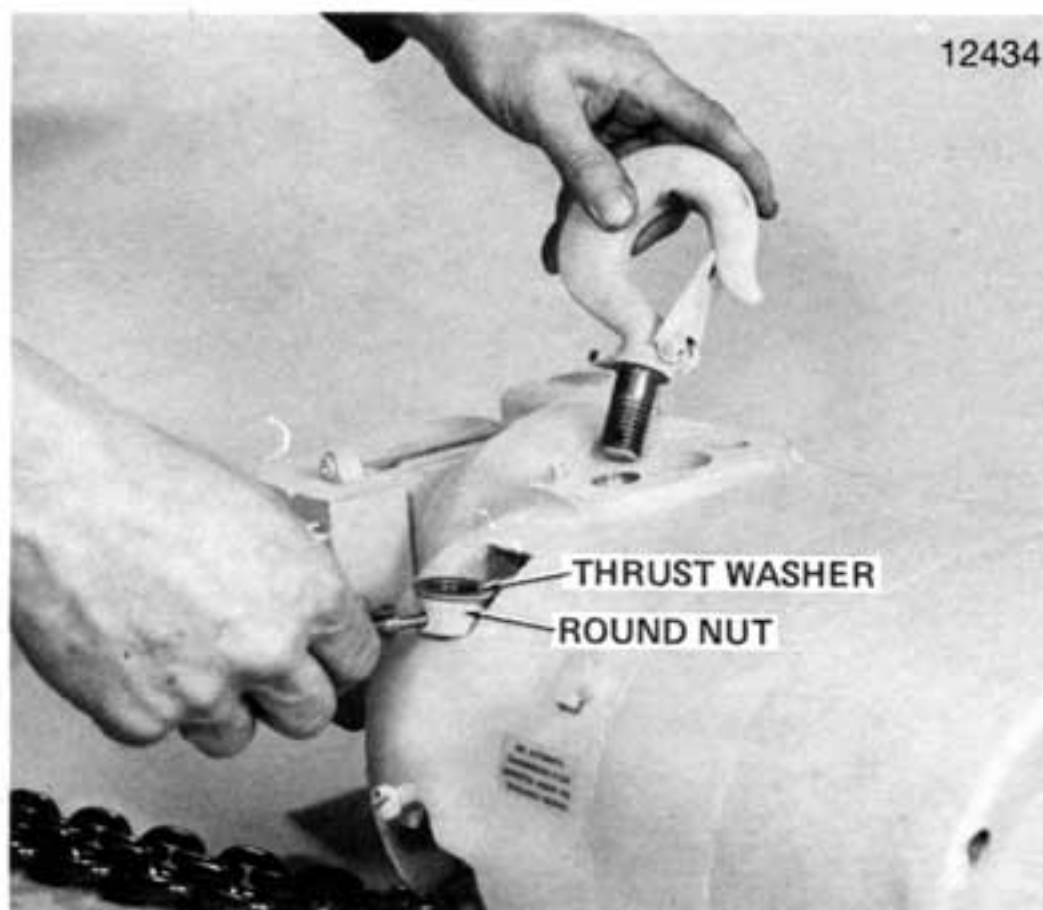

Figure 7-15. Removing Upper Hook and Hook Nut From Hoist Frame (Single Reeved Models).
- (1) On single reeved models, drive pin from hook nut using drift punch and unscrew upper hook. Nut is reached through access hole in side of hoist frame. See Figure 7-15.
- (4) To remove connecting rod (Figure 7-1) on triple reeved hoist drive pin from rod using drift punch and unscrew connecting rod. Nut is reached through access hole in side of hoist frame. (See Figure 7-15.)